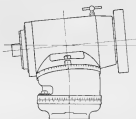

Figure 61B
- (b) Loosen the bolts through the intermediate plate, swivel the housing and plate 5 degrees to the right, and clamp (Fig 61B)